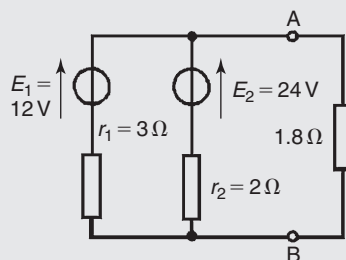
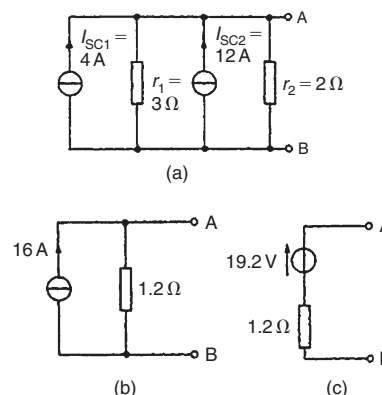

Figure 13.72
Figure 13.73
Problem 20. (a) Convert the circuit to the left of terminals AB in Fig. 13.72 to an equivalent Thévenin circuit by initially converting to a Norton equivalent circuit. (b) Determine the current flowing in the 1.8Ω resistor.
$I_{SC} = 12/3 = 4 \text{ A}$ and $r_1 = 3\Omega$. For the branch containing the 24V source, converting to a Norton equivalent circuit gives $I_{SC2} = 24/2 = 12 \text{ A}$ and $r_2 = 2\Omega$. Thus Fig. 13.73(a) shows a network equivalent to Fig. 13.72
From Fig. 13.73(a) the total short-circuit current is $4 + 12 = 16 \text{ A}$ and the total resistance is given by $(3 \times 2)/(3 + 2) = 1.2\Omega$. Thus Fig. 13.73(a) simplifies to Fig. 13.73(b). The open-circuit voltage across AB of Fig. 13.73(b), $E = (16)(1.2) = 19.2 \text{ V}$, and the resistance 'looking-in' at AB is 1.2Ω . Hence the Thévenin equivalent circuit is as shown in Fig. 13.73(c).
(b) When the 1.8Ω resistance is connected between terminals A and B of Fig. 13.73(c) the current I flowing is given by